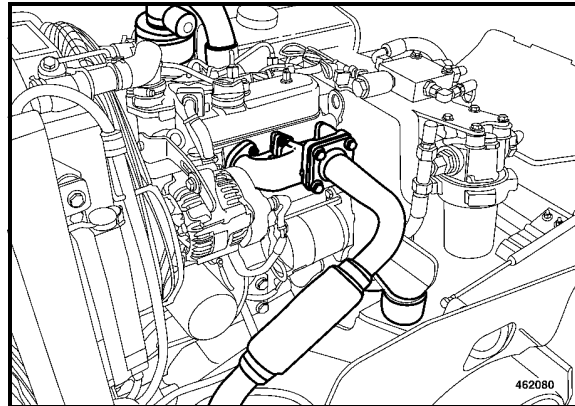

Fig. 152
- Check air intake and exhaust manifold fastenings (Fig. 152) for tight fit.